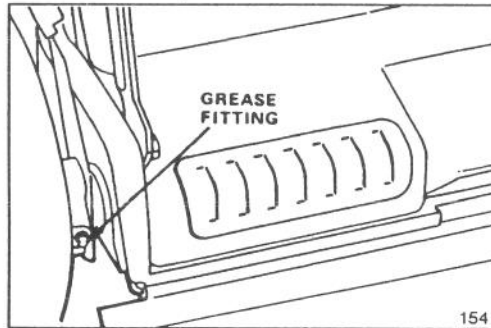

Figure 21
2. Move rear wheel height-of-cut levers to "2" setting. Wipe grease fittings with clean rag (Fig. 21). Install grease gun onto fitting and gently apply 2 or 3 pumps of #2 Multi-Purpose Lithium Base Grease.